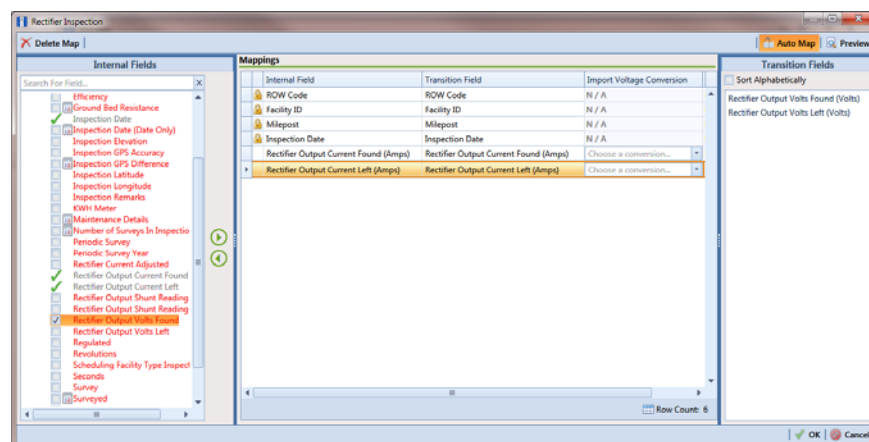

Figure 9-39. Field Mappings
- a Click  **Edit** in the *Maps* group box to open a field mapping window (Figure 9-39).
NOTE: Fields in the *Mappings* panel with a lock icon  are required fields for mapping, such as *ROW Code*, *Milepost*, *Facility ID*, and *Inspection Date* shown in the following example (Figure 9-39, page 424).